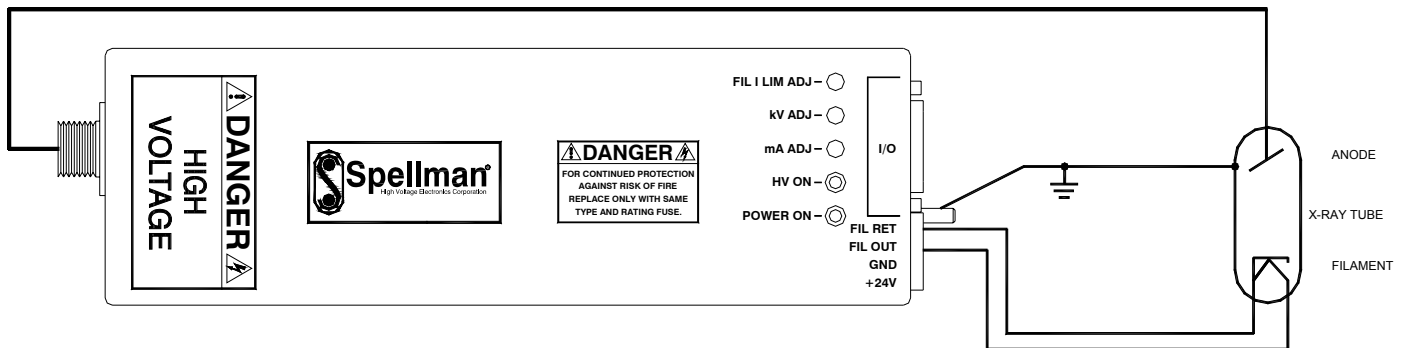

Figure 3.1 Typical Operating Setup MNX
B) **PROPER GROUNDING TECHNIQUE:** The chassis of high voltage power supplies must be grounded, preferably to a water system ground using copper pipe or other earth ground using the connection terminal at the rear of the unit. See Figure 3.1, for a typical operating setup.